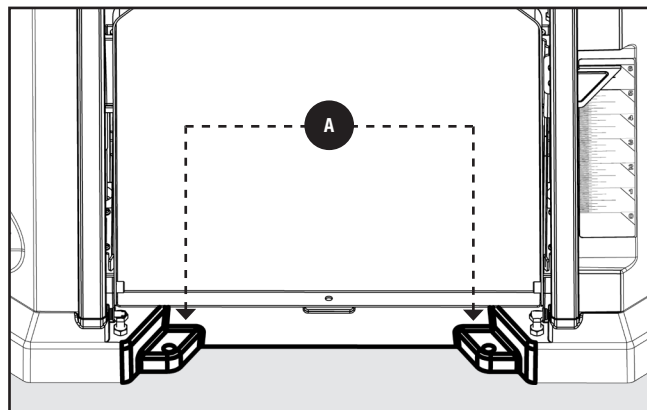

FIGURE 9
1. Four mounting holes **A** are provided for mounting the planer to a stand or work surface. These holes are located under the in-feed and out-feed tables (two of which are shown in Figure 9).